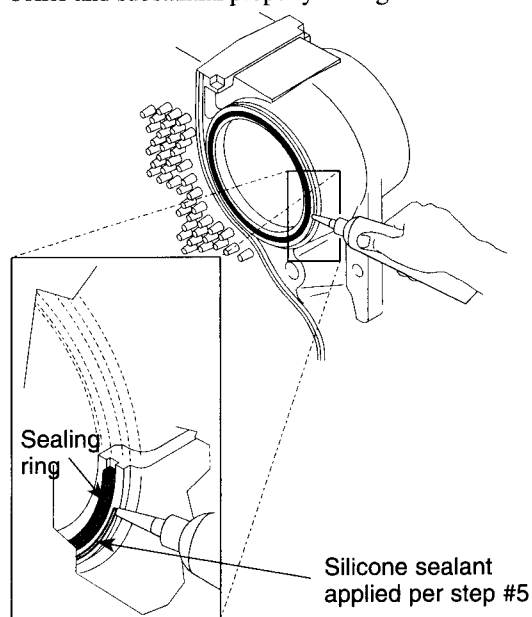

Figure 5
5. Apply continuous bead of silicone sealant no larger than 1/16" around entire outside edge of **outer** machined surface of port. Refer to Figure 5. **Do not apply silicone sealant on, next to or under sealing ring.**